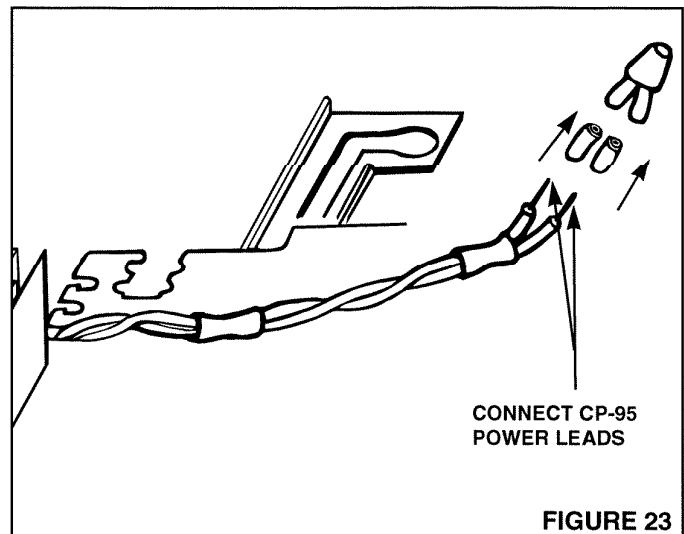

FIGURE 23
1. Refer to Figure 23. Cut the protective sleeving from the end of the BLK/WHT CP-95 power supply leads.